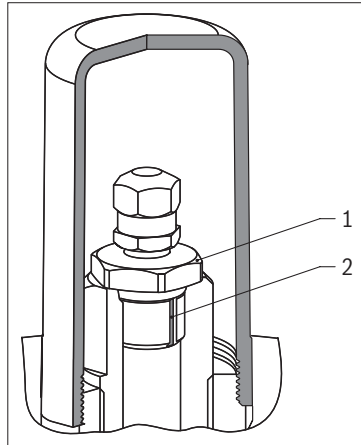

Fig. 13: Relieving nut
- ▶ Loosen the gas valve insert, see Fig. 13, item 1, slowly using an open-end wrench SW 17, until the residual pressure is audibly released via the relieving nut, see Fig. 13, item 2, in the thread of the gas valve insert.